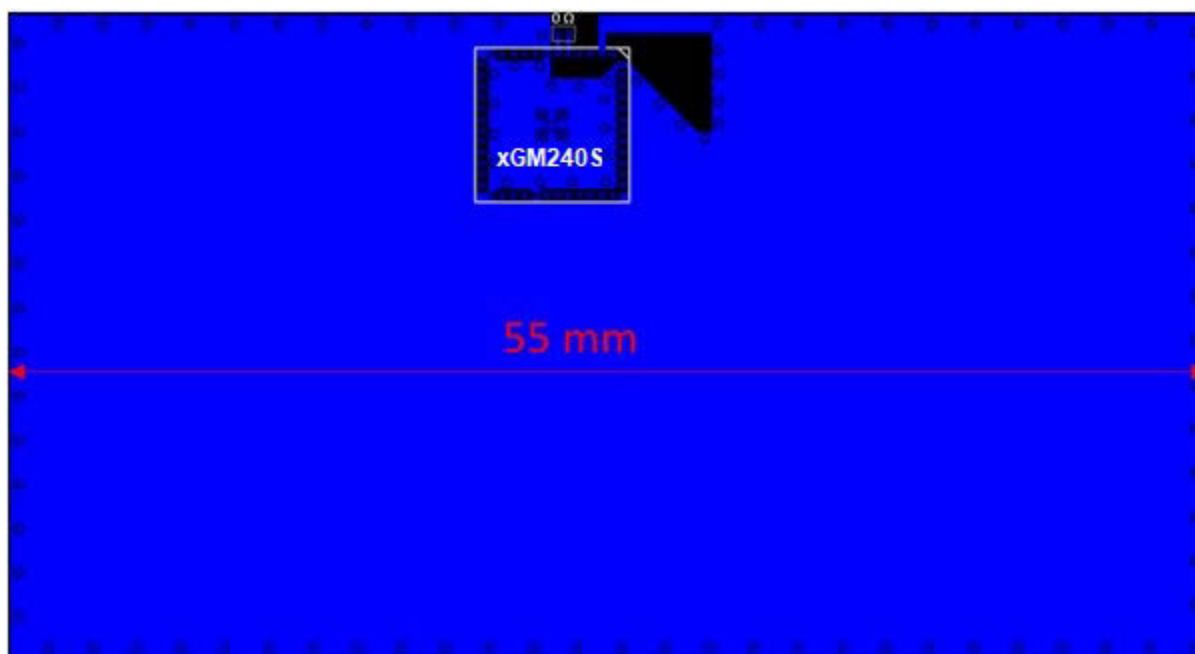

Figure 7.5. Illustration of Recommended Board Width
- To achieve optimal performance, a GND plane width of 55 mm is recommended as seen on Figure 7.5 Illustration of Recommended Board Width on page 40.